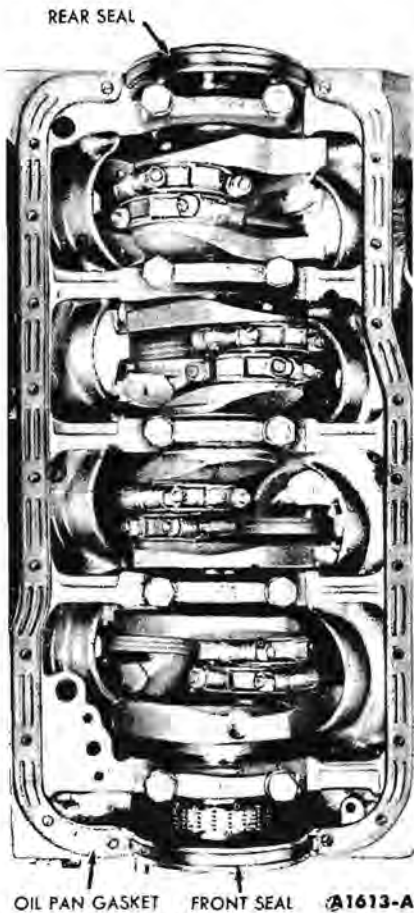

FIG. 52—Oil Pan Gaskets and Seals Installed
3. Clean the gasket surfaces of the block and oil pan. The oil pan has a two-piece gasket. Coat the block surface and the oil pan gasket surface with sealer. Position the oil pan gaskets on the cylinder block (Fig. 52).
4. Position the oil pan front seal on the cylinder front cover (Fig. 52). **Be sure the tabs on the seal are over the oil pan gasket.**
5. Position the oil pan rear seal on the rear main bearing cap (Fig. 52). **Be sure the tabs on the seal are over the oil pan gasket.**